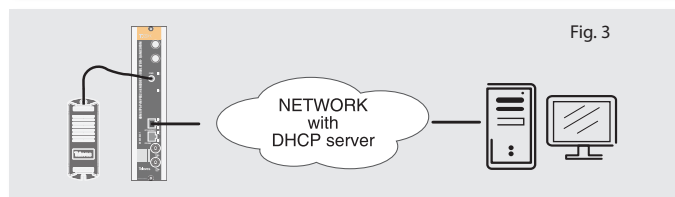
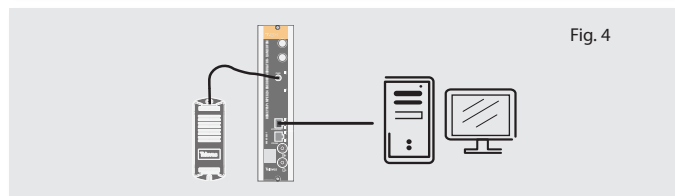

Fig. 3
Fig. 4
3. If a network is available that provides IP addresses through DHCP, connect the encoder to the network as shown in figure 3. If such a network is not available, then a computer will need to be connected as shown in figure 4.